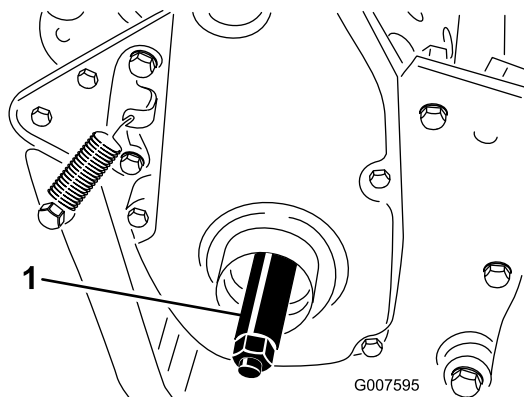

Figure 6
3. Thread the right wheel shaft into the drive pulley on the right side of the machine (Figure 6).